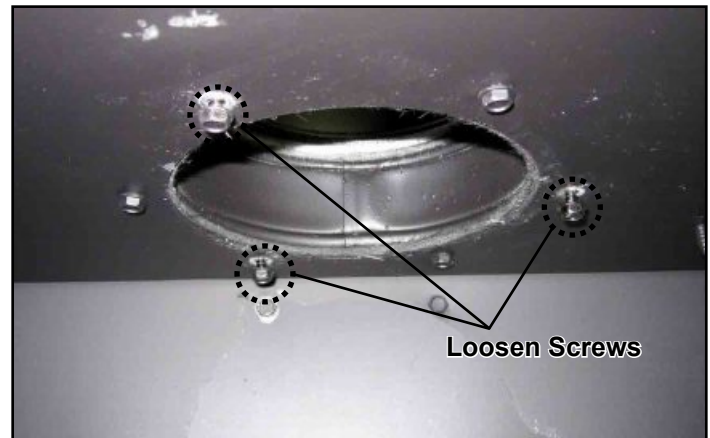

Figure 10.14
To install a flue restrictor in this appliance, loosen (3) opposing screws on the inside of the firebox on the open flue. Back the screws out about 1/4 in. See Figure 10.14.